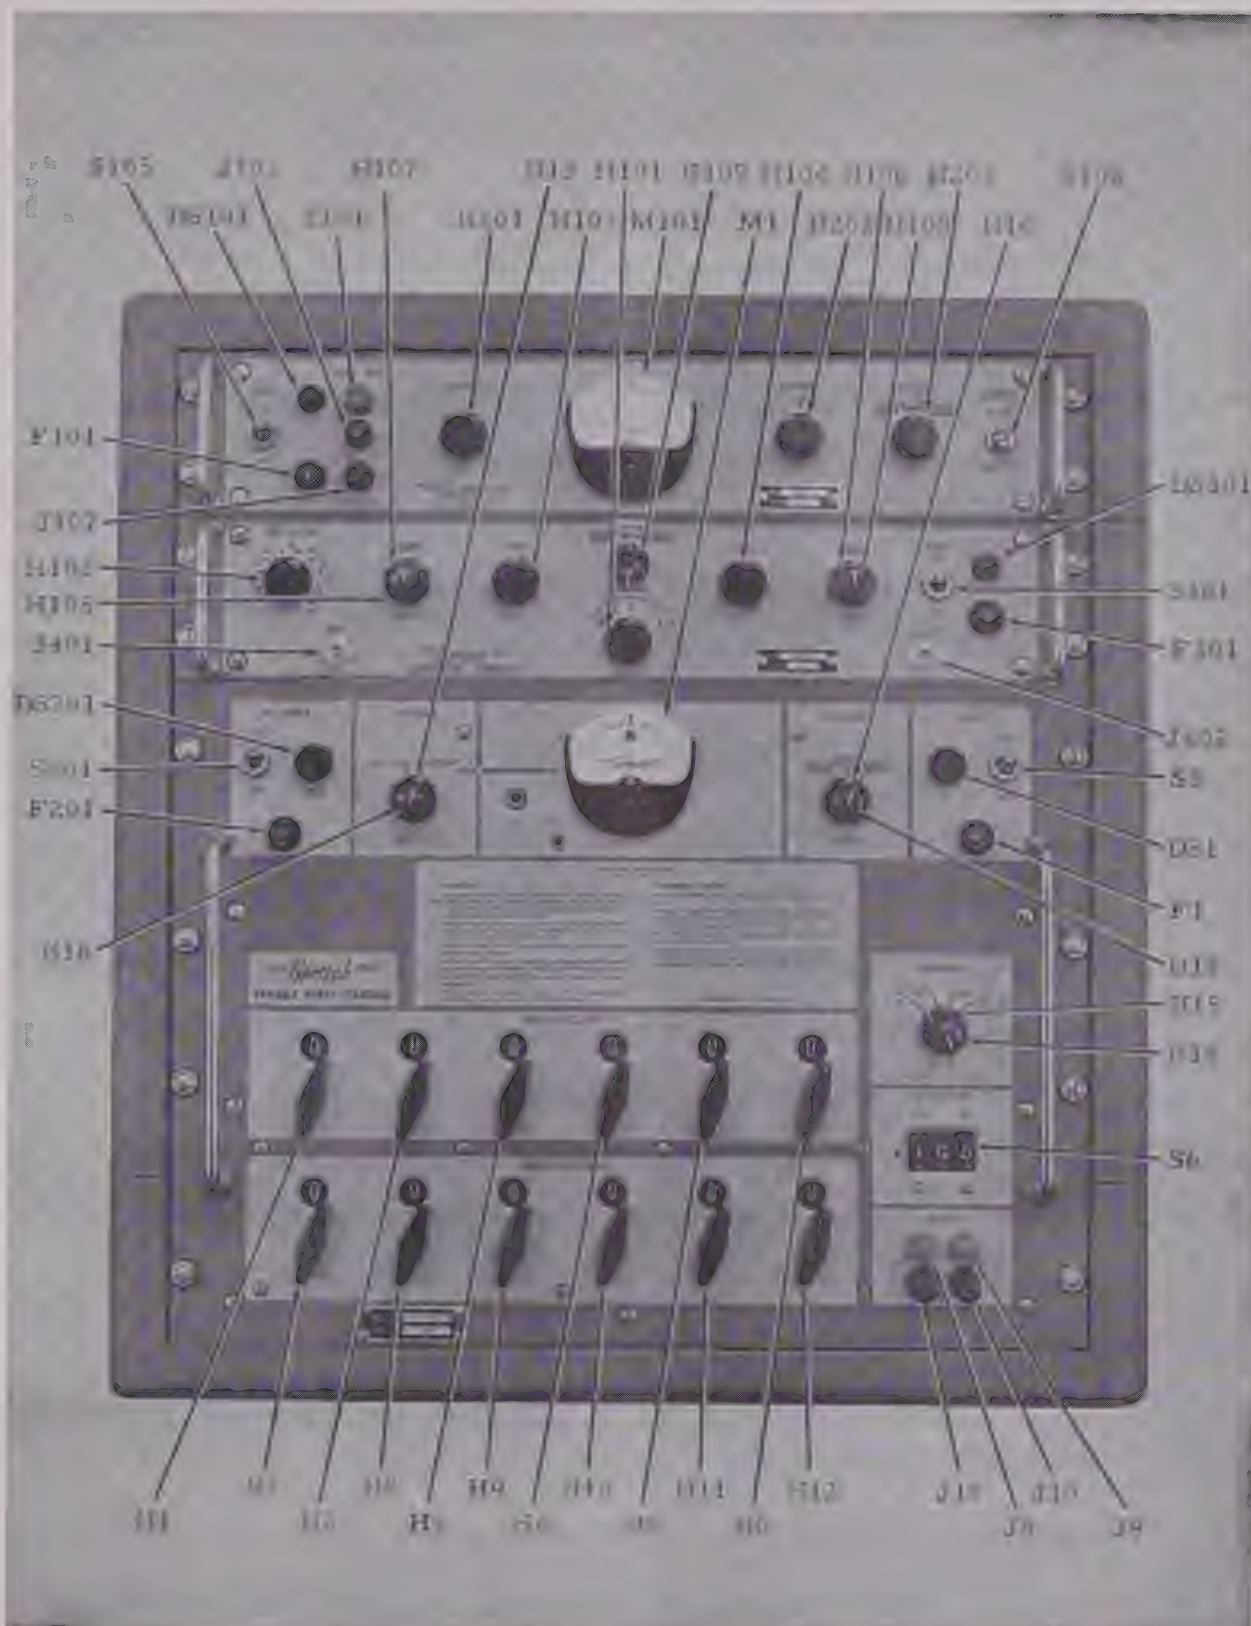

Figure 1-10. Controls and Indicators
1-40. **OPERATING CONTROLS AND INDICATORS.** See figures 1-10 and 1-11 for location, identification, and function of operating controls and indicators.
d. Connect unit to the power source. OVEN lamp DS201, figure 1-10, must light.